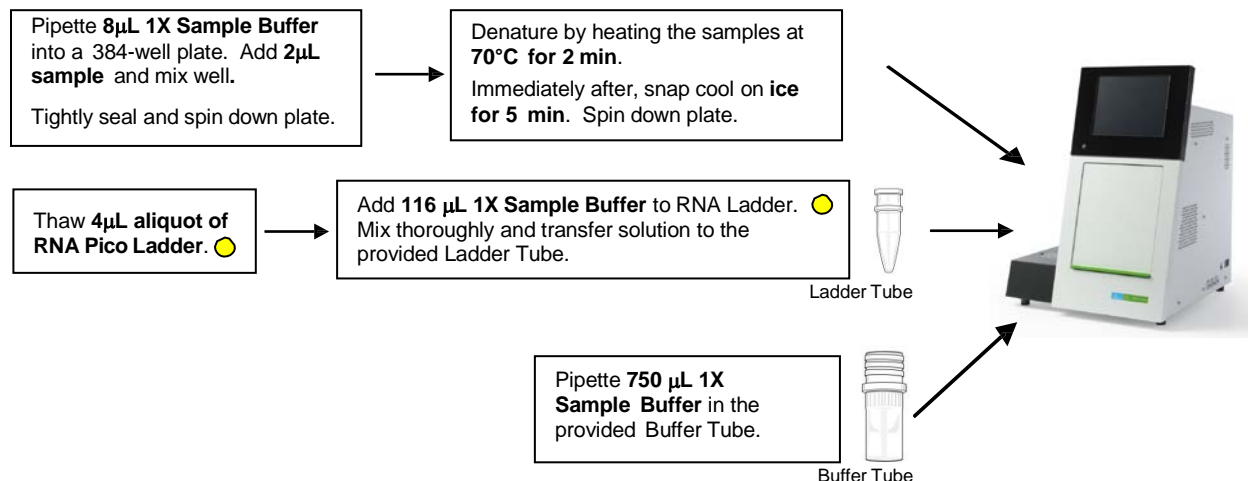

Figure 3. Sample, Ladder Tube and Buffer Tube Preparation
2. Prepare sample, Ladder Tube and Buffer Tube according to **Figure 3**. For sample heat denature, if a 384-well thermocycler or heat block is not available, sample plate can be heated by placing plate on top of one heat block, and then placing another heat block on top of the plate.